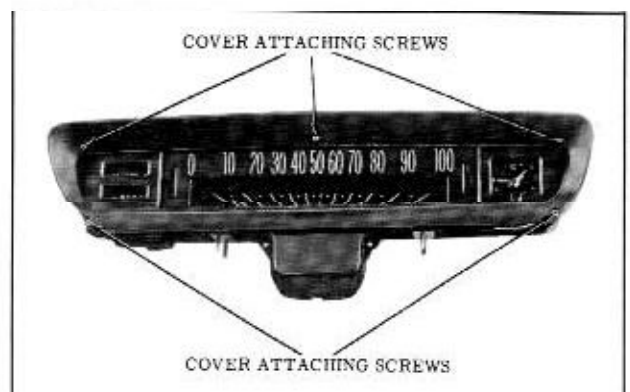

Fig. 12-2 Cover Removal
2. Remove cluster cover attaching screws. (Fig. 12-2) Disconnect the wiring harness, clock, and speedometer cable at the cluster.